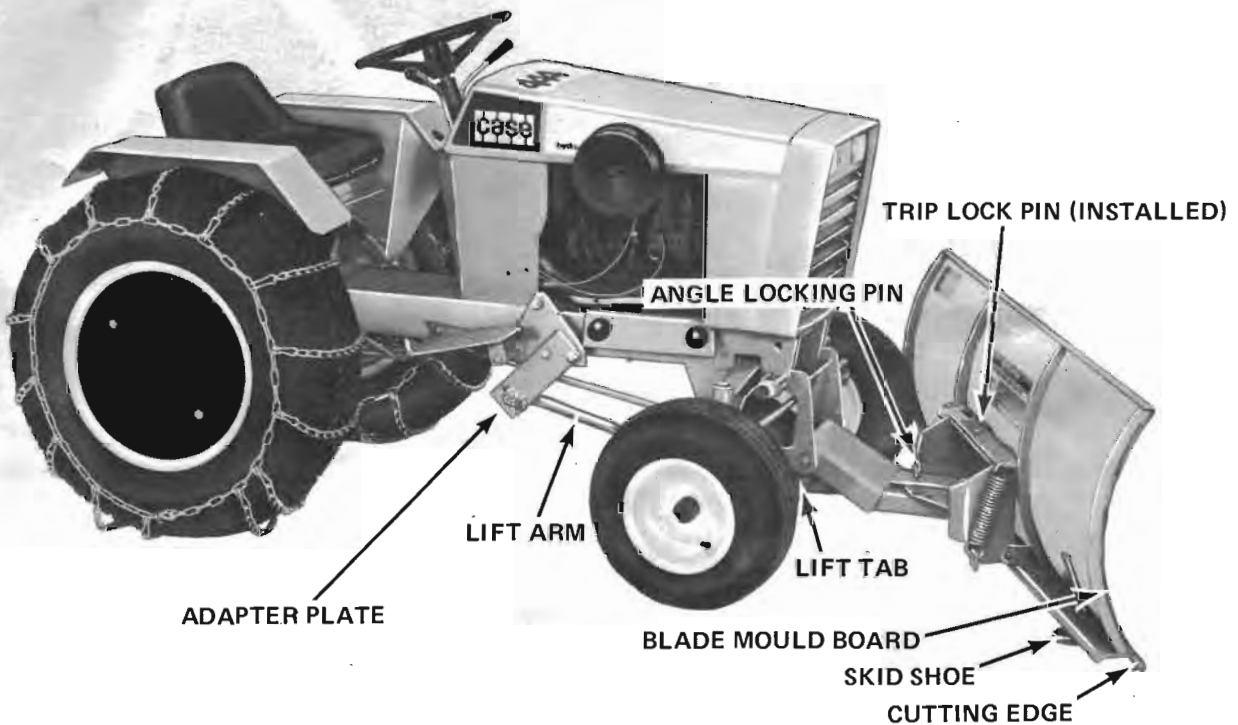

Figure 1
1. Install the trip lock pin to use the Utility Blade in a rigid position. See Figure 1.
2. Remove the trip lock pin to use the Utility Blade with spring action. The pin must be stored in the hole on the left side of the blade adapter. See Figure 1.